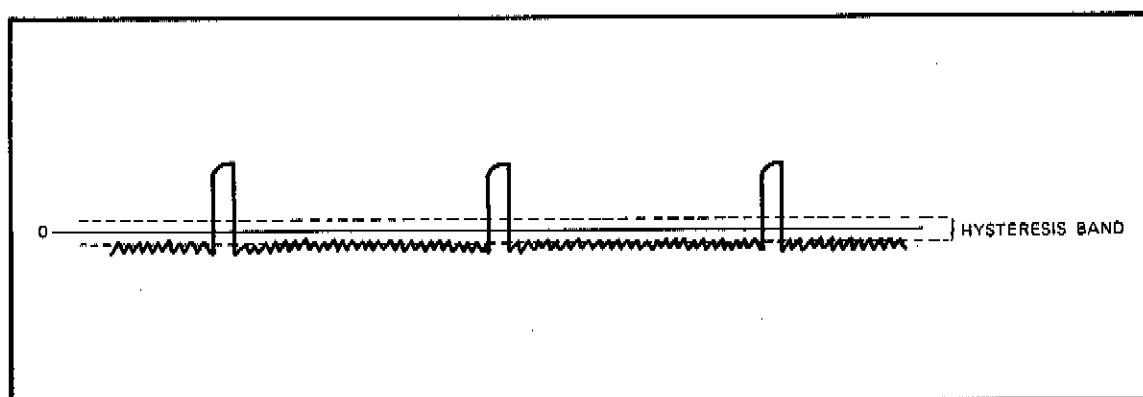
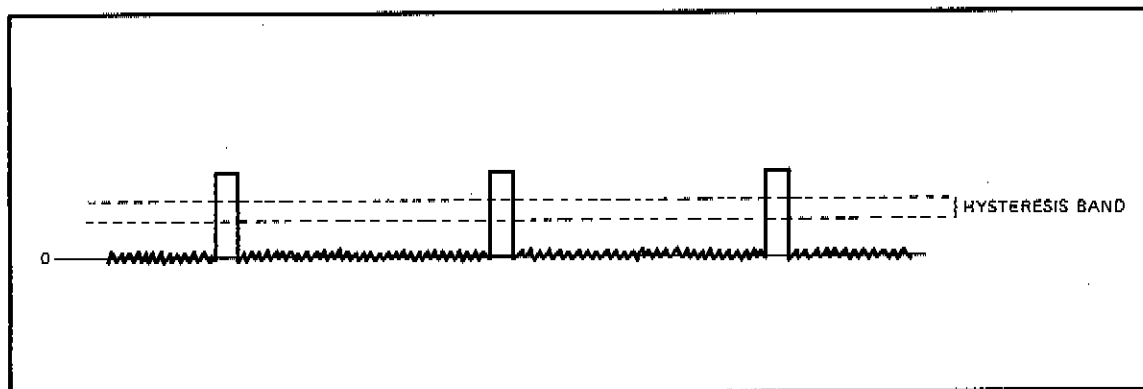

Figure 3-7. AC Coupled Measurements
Figure 3-8. DC Coupled Measurements
2. For asymmetrical waveforms (pulse trains, TTL, ECL signals, ramps, etc.) use a combination of dc coupling, Trigger Level, and fixed attenuator. AC coupling these types of signals tends to distort them slightly, due to the charging of the capacitor. More important, the position of the signal on the zero preset trigger level is determined by the average dc level of the input. Depending on the pulse width and duty cycle, this dc average may be low enough to allow the base line noise to trigger the counter, producing false counts (see Figure 3-7). DC coupling fixes the dc level of the input signal, which allows the adjustable Trigger Level to be positioned at the optimum point. Set the Trigger Level control to the approximate center of the triggering range indicated by the trigger light (see Figure 3-8). The actual dc trigger level may be monitored at the front panel test point. When programming via the HP-IB, it may be set directly.